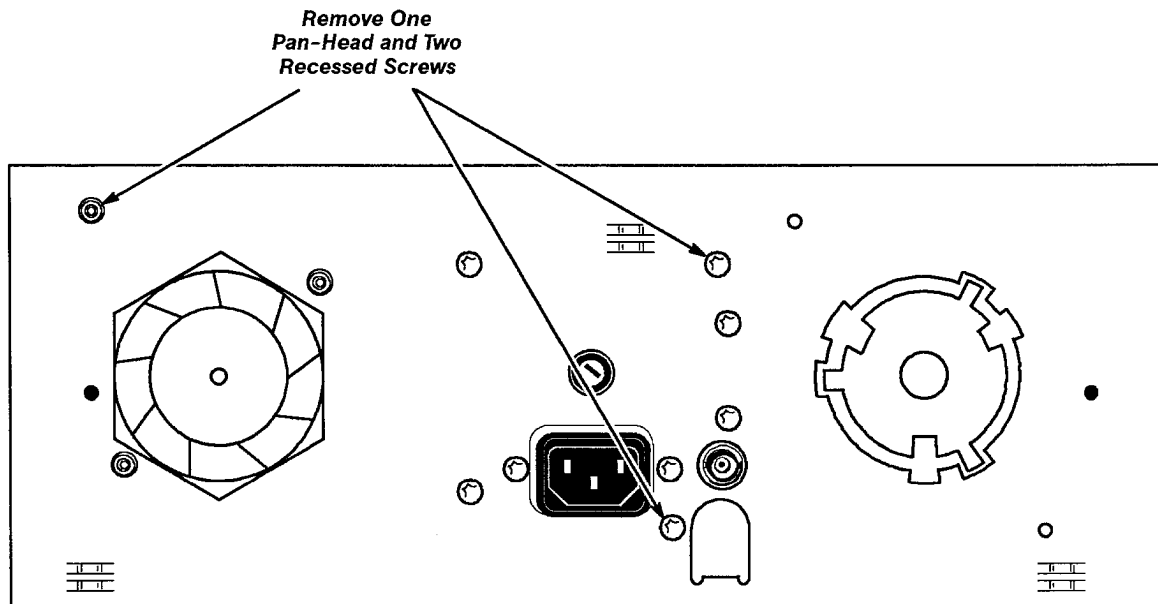

Figure 6-7. Location of screws securing Power Supply shield and the support bracket to the rear chassis frame.
7. Remove one pan-head and two recessed screws securing the Power-Supply shield to the rear chassis frame. See Figure 6-7 for the location of the three screws on the rear chassis frame.